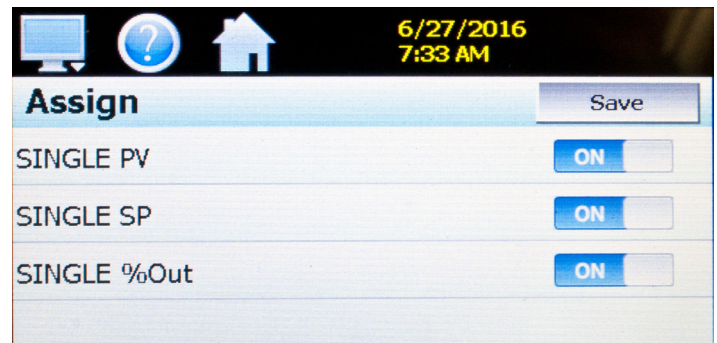

Fig. 62: Assign Screen (Single) - Select Variable
2. At the ASSIGN Screen (Figs. 62 & 63), select the desired control loops (single PV, SP or %Out for single chamber program or upper/lower temp PV, SP or %Out for dual chamber program).